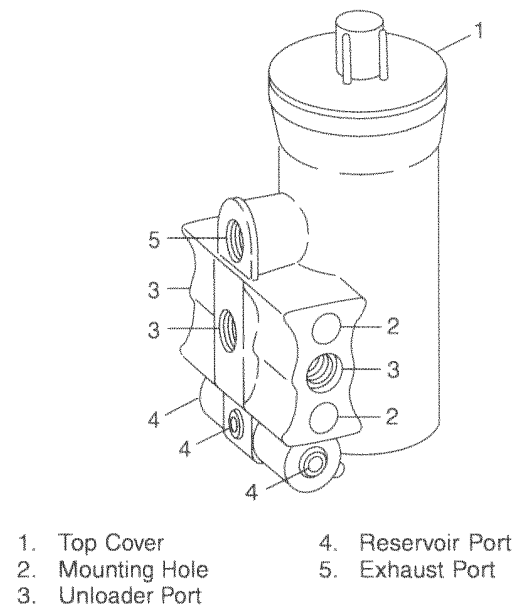

Fig. 1, Governor
- 6.1 With the compressor in the cut in position, apply a soap solution to the governor exhaust port. See Fig. 1. A slight bubble leakage is permitted. Excessive leakage indicates that the inlet valve or lower piston O ring is worn out.
- 6.2 With the compressor in the cut out position, apply a soap solution to the governor exhaust port. See Fig. 1. A slight bubble leakage is permitted. Excessive leakage indicates that the exhaust valve seat, stem, O ring, or upper piston O ring is worn out.